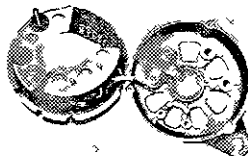

Fig 8-30 Brush Holder Removal V4377
5. Remove the B terminal nuts and insulator and the rectifier holder retaining nuts and insulator. Remove the brush holder from the rectifier end frame (Fig 8-30).